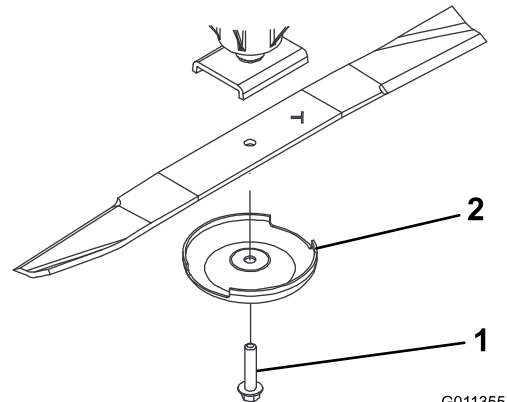

Figure 123
3. Remove the blade bolt, anti-scalp cup, and blade from the spindle shaft (Figure 123).